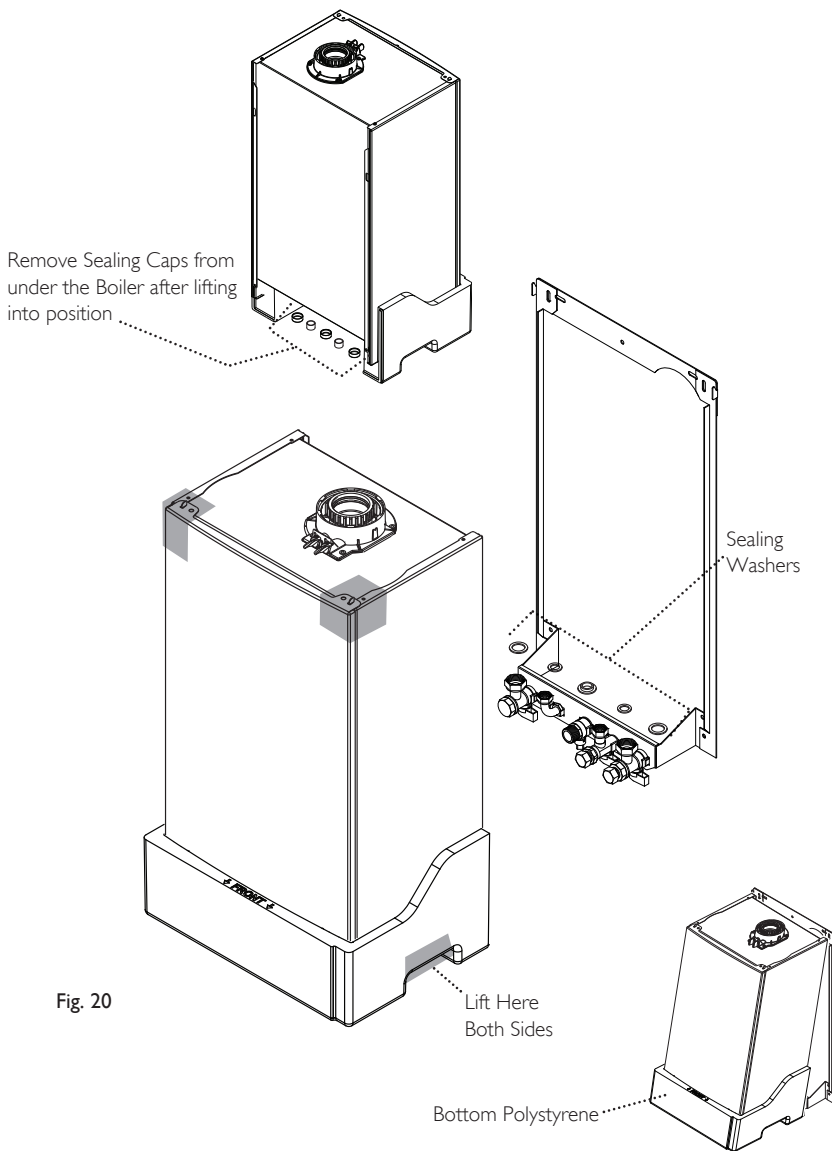

Fig. 20
9.5 Fitting The Boiler (Fig. 20)
1. Lift the boiler using the Lifting Points as shown by the shaded areas (Fig. 20). The boiler should be lifted by TWO PEOPLE. Engage the slots at the top rear of the boiler on the wall plate (Fig. 20) (see **Safe Manual Handling** page 5).